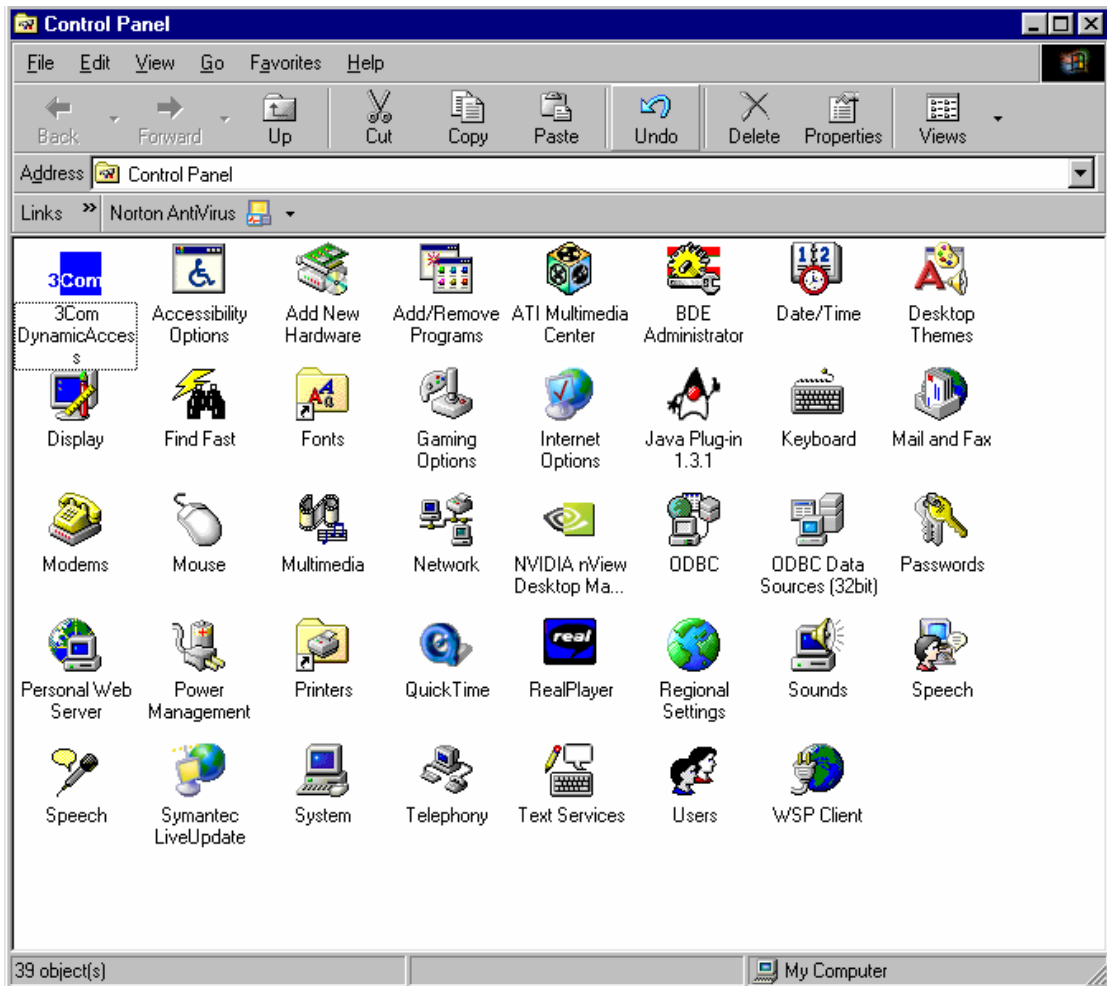

Figure 27
3. Double-click the **Add/Remove Programs** icon (Figure 27).